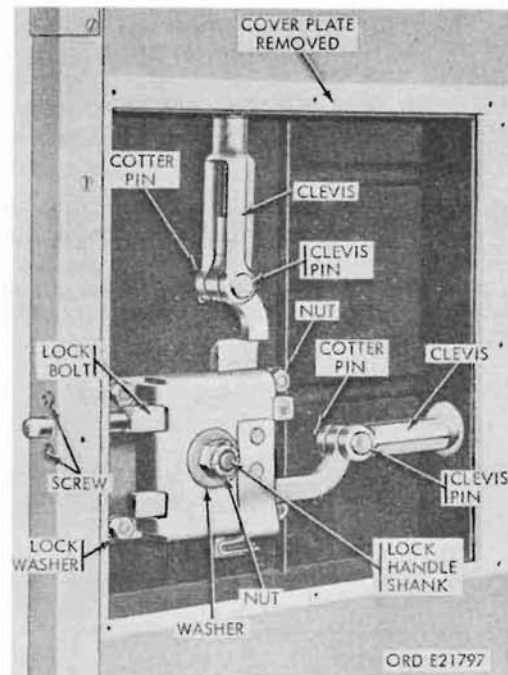

Figure 362. Side panel lock mechanism
a. Removal (Fig. 362).
- (1) Remove eight screws attaching lock cover plate to panel and remove cover plate. Remove insulating material.
- (2) Remove two screws attaching lock bolt retainer to edge of door frame.
- (3) Remove cotter pins from clevis pins, remove clevis pins, and separate clevises from lock.
- (4) Remove self-locking nut and washer securing lock handle shank in lock.
- (5) Remove four nuts and lockwashers which attach lock to van body and remove lock.